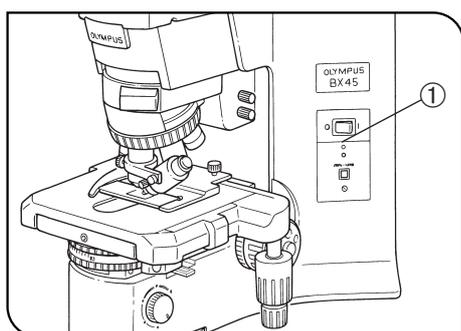

Fig. 1
3. To avoid potential shock hazards and burns when replacing the light bulb, set the main switch ① to "○" (OFF) then disconnect the power cord from the wall outlet in advance. Whenever you replace the bulb during use or right after use, allow the lamp socket ② and bulb to cool before touching. (Figs 1 & 2)